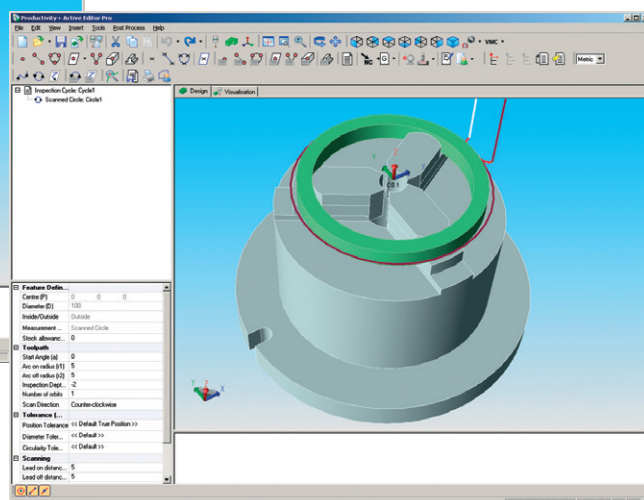

Figure 5: surface scanning method with single probe scan path
- A scanning probe is used to determine feature surface characteristics (figure 5)